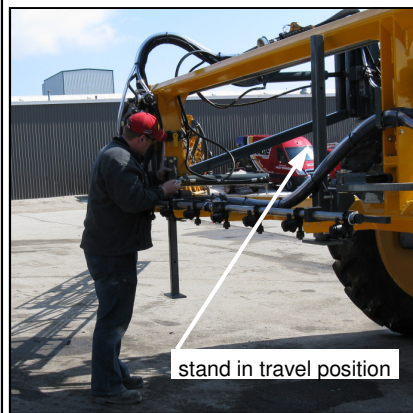

FIG. 64-2
8. Put the boom stands in the "travel position".	64; FIGURE 64-2